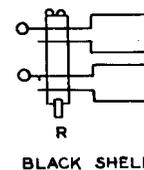

Fig. 3—327D Plug
- (b) **327D:** The 327D plug finger (Fig. 3) nearest the grooved side has the tip and sleeve connections insulated from each other, and the other finger is solid metal.